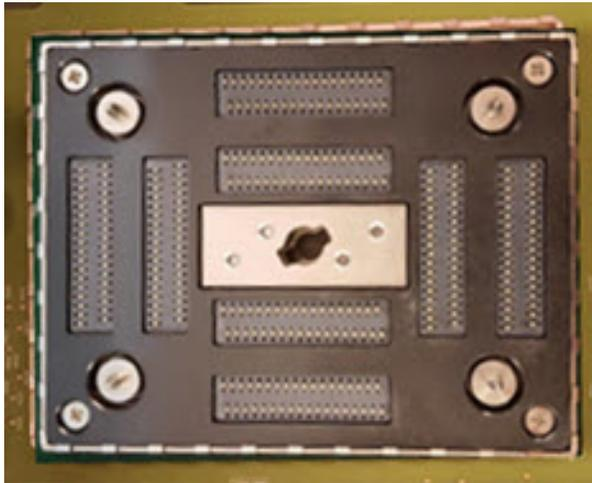

Figure A.2 Turbo System Interposer Assembly,
*Note: A new version of the Nest Frame assembly is available and backwards compatible with early systems. Parts are not interchangeable between assemblies. The new item has one part number for the entire assembly. See Figure A.2. Use for replacement on Main PCBA, DTC and STC assemblies.*